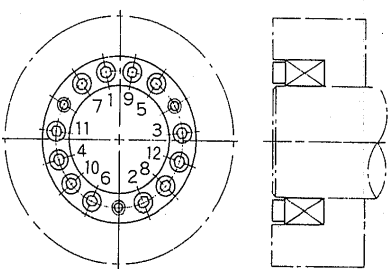

Fig. 3 Tightening sequence for bolts
- Set a torque wrench to approximately 1/4 of the torque MA (refer to the table given below for torque MA) and tighten each of the tightening bolts evenly in the sequence shown in Fig. 3.